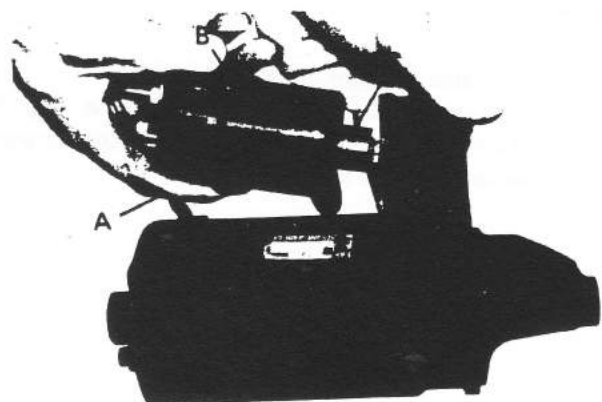

Fig. 18
1. Remove the nut from the starter switch terminal and detach the lead wire (A), referring to Fig. 18. Unscrew two screws securing the starter switch (B) to the starter gear housing, and remove the starter switch. Remove the Plunger (C) from the drive lever.